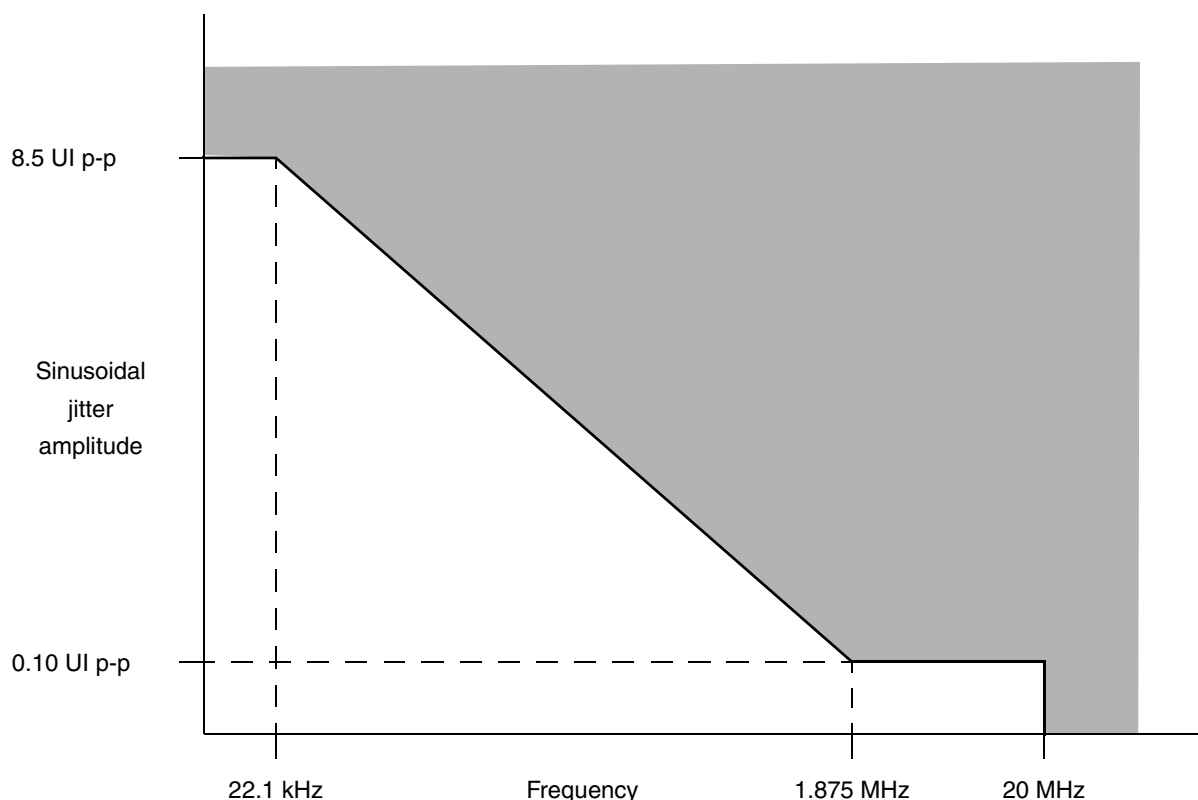

Figure 44. Single-Frequency Sinusoidal Jitter Limits
2. Total jitter is composed of three components: deterministic jitter, random jitter and single frequency sinusoidal jitter. The sinusoidal jitter may have any amplitude and frequency in the unshaded region of Figure 44. The sinusoidal jitter component is included to ensure margin for low-frequency jitter, wander, noise, crosstalk, and other variable system effects.
2. Total jitter is composed of three components: deterministic jitter, random jitter, and single frequency sinusoidal jitter. The sinusoidal jitter may have any amplitude and frequency in the unshaded region of Figure 44. The sinusoidal jitter component is included to ensure margin for low frequency jitter, wander, noise, crosstalk, and other variable system effects.